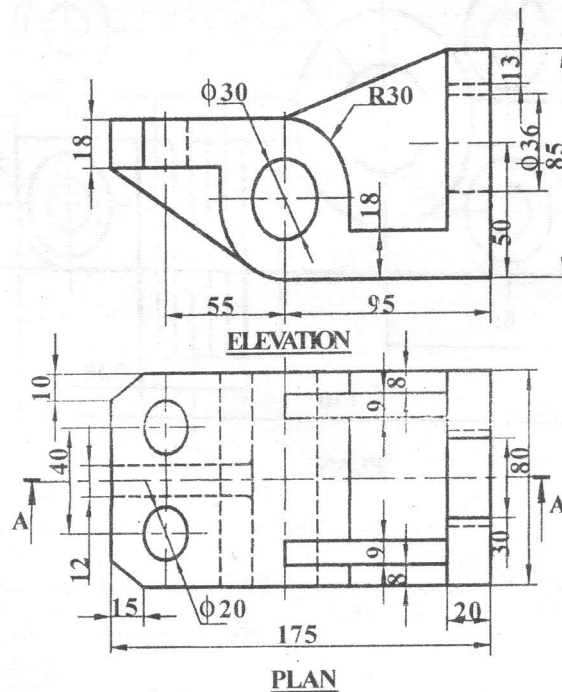

Fig. 7
- Q.9)** Elevation and Plan of a Bracket are shown in **fig. 7** : Draw to full scale the following view : (1) Sectional Elevation Section along A-A (2) Given Plan and (3) End View (4) Give all dimension.